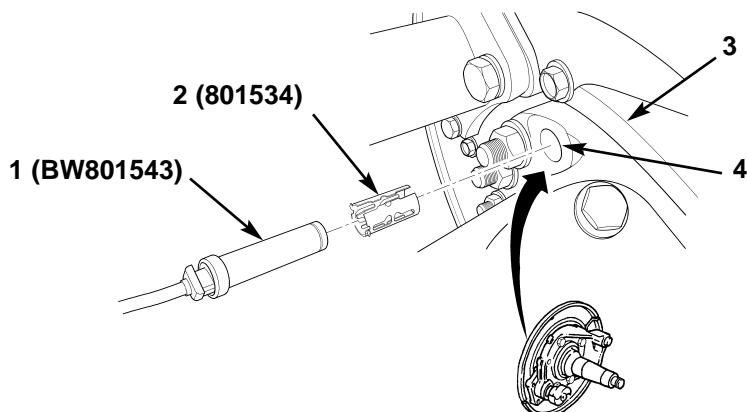

Figure 26. Installing Clamp Sleeve and Wheel Sensor.
17. Install new clamp sleeve (figure 26, item 2) and new wheel sensor (figure 26, item 1) on front top hole of spindle and brake spider (figure 26, item 4). Slide wheel sensor (figure 26, item 1) approximately half way in clamp sleeve (figure 26, item 2).